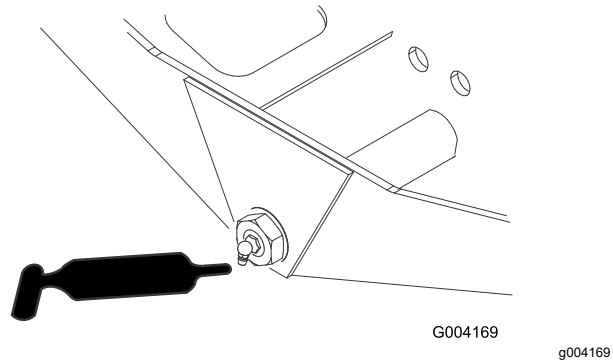

Figure 69
- Axle-steering pivot (1)—Figure 69